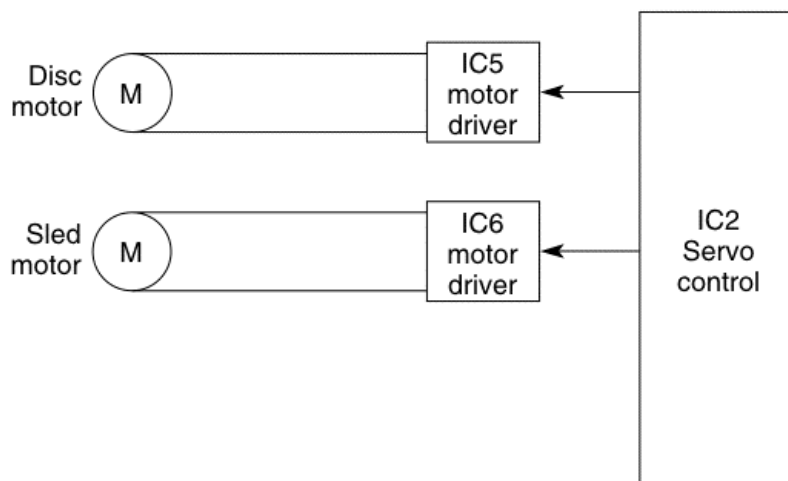

FIGURE 26-8 Servo IC2 controls motor drivers IC5 and IC6 of the disc and sled motors.
Realistic CD-3304 boom-box servo circuits In the Realistic boom-box CD servo circuits, the focus error (FE) is taken from pin 19 of the RF amp IC501 through a focus gain control to pin 6 of the servo LSI IC502 (Fig. 26-8). The tracking error (TE) signal is taken from pin 20 of RF amp IC501 through tracking gain control to pin 3 of servo LSI IC502. The focus error output (FEO) is fed from pin 11 to IC506 driver and to the focus coil winding. Likewise, the tracking error output (TEO) is fed from pin 17 to driver IC506 and to the tracking coil winding.